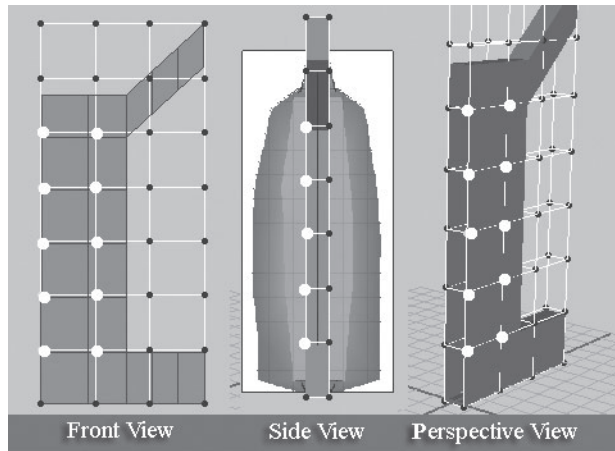

FIGURE 3.67 Selected front lattice influence points viewed from Front, Side, and Perspective views.
44. In Front view, click the lattice influence points in the two inner rows between the arm and the foot while holding down the Shift key. Make sure you have selected only the front points. Deselect any other lattice influence points (see Figure 3.67).